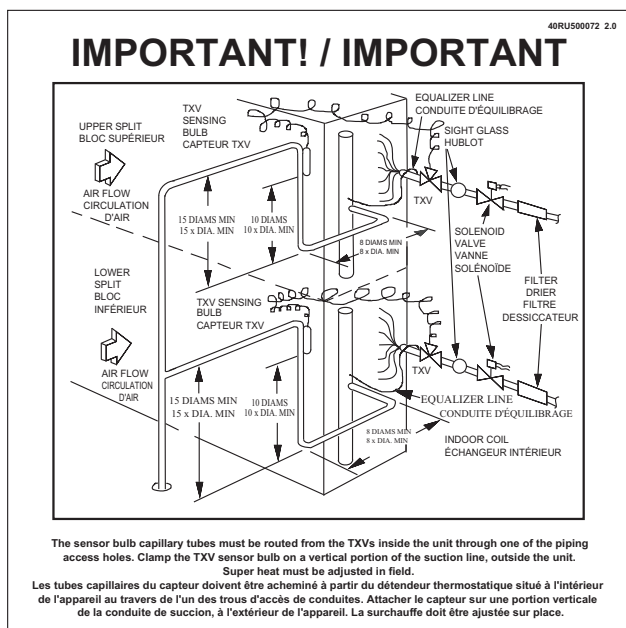

Fig. 19 — TXV Bulb Location Label
- Is TXV bulb located on suction tube per Fig. 19?